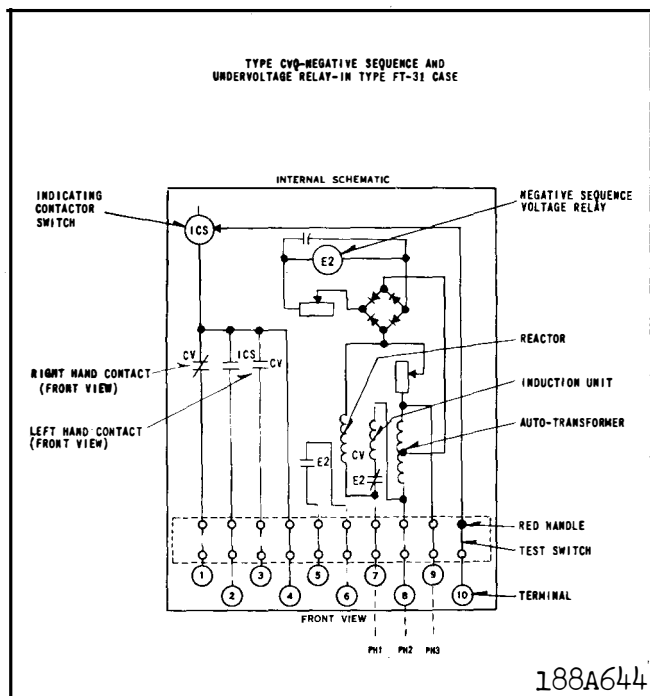

Fig. 1 Internal Schematic of the Type CVQ Relay.
The type CVQ relay consists of a polar Unit (E) operating on negative sequence quantities, a negative sequence voltage filter, full wave bridge, a time undervoltage relay (CV), an indicating contactor switch (ICS) and a telephone relay when used. The principal component parts of the relay and their location are shown in Figure 1.
The voltage filter consists of an autotransformer, reactor, and resistors connected as shown in the internal schematic Fig. 1.